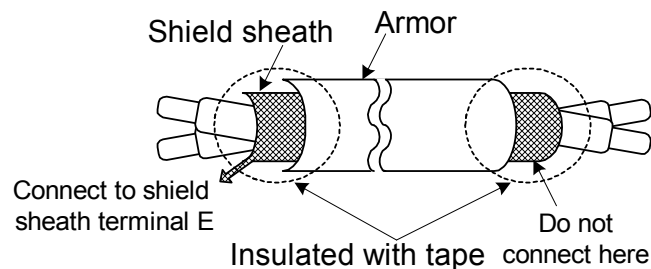

Fig. 3 Processing the ends of twisted-pair cables
- (1) Separate the control circuit wiring from main circuit wiring (R/L1, S/L2, T/L3, U/T1, V/T2, W/T3) and other high-power lines to avoid noise interruption.
- (2) Separate the wiring for control circuit terminals RA-RB-RC (R1A-R2B-R2C) (contact output) from wiring for terminals ① ~ ⑧, A01, A02, GND, DO1, DO2, DOG, 15V(or +12V-, -12V), VIN, AIN, AUX, GND, IP12, IG12, A (+), A (-), S(+) and S(-).
- (3) Use the twisted-pair or shielded twisted-pair cables for control circuits to prevent operating faults. Process the cable ends as shown in Fig. 3. The max. wiring distance should not exceed 50 meter.